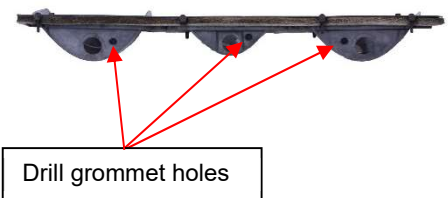

Figure 2
2. For each taillight housing, drill 1 – 5/16" hole on the bottom surface of each taillight housing. (See Figure 2) The exact location of each hole is not critical. Then install provided rubber grommet into the drilled hole. One method to simplify installation is to pinch grommet, insert protruding edge into the hole, then use a small flat blade screwdriver to push/work the remaining edge through the hole.